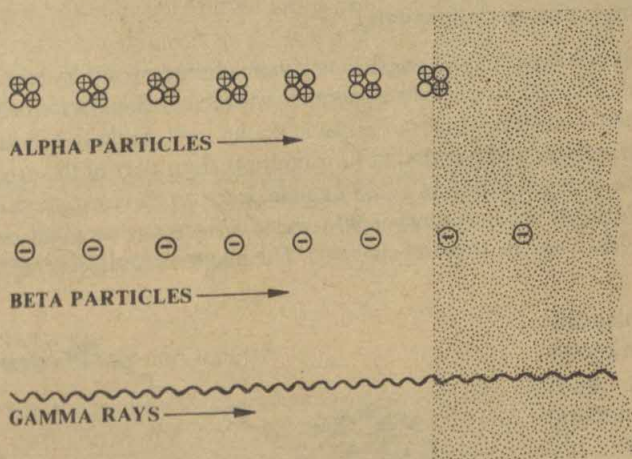

Fig. 12.2 The penetrating power of the three kinds of radioactivity: Alpha particles penetrate the least, gamma rays the most.
1. *Alpha ( $\alpha$ ) particles:* These particles are composed of two protons and two neutrons, and are identical to the nucleus of a helium atom. Thus each particle has a mass of about 4 atomic mass unit and a positive charge of two electronic unit. An  $\alpha$ -particle is represented by the symbol  ${}^4_2\text{He}$ . They are the most massive of the three radiations, but the slowest and the least penetrating (Fig. 12.2). They can travel to a maximum of 10 per cent of the speed of light and can be stopped by a piece of thin paper. Therefore, penetration of  $\alpha$ -particles into living system from outside is small. These particles can damage the tissues only when they are brought into intimate contact with internal tissues and organs.